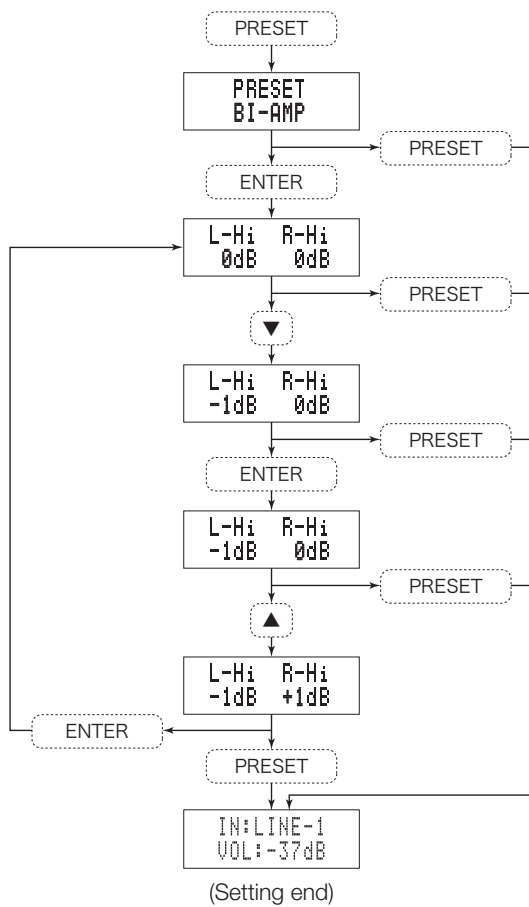

Fig. 2
- (1) Press the PRESET switch when the output mode is set to the bi-amplifier output to activate the bi-amplifier preset mode. (1st line of Fig. 2)
- (2) Press the ENTER switch, and the L-Hi level blinks to show that the level of the L-Hi channel can be adjusted. (2nd line of Fig. 2)
- (3) Pressing ▲ increases the sound volume of the L-Hi channel in steps of 1 dB.
E.g.) If ▼ is pressed once, -1 dB appears. (3rd line of Fig. 2)
- (4) Press the ENTER switch, and the R-Hi level blinks to show that the level of the R-Hi channel can be adjusted. (4th line of Fig. 2)
- (5) Pressing ▲ increases the sound volume of the R-Hi channel in steps of 1 dB.
E.g.) If ▲ is pressed once, +1 dB appears. (5th line of Fig. 2)
- (6) Press the ENTER switch to set the step back to the step (2) to enable the L-Hi channel adjustment again.
- (7) Pressing the PRESET switch allows the setting to be memorized in any state of the steps from (1) through (5) and the preset mode to end.